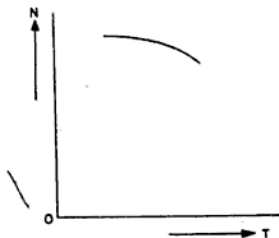

Fig. 8.10  $N/T$  characteristic
**$N/T$  Characteristic** This characteristic is shown in Fig. 8.10 and can be found from curves 1 and 2 as shown in the two curves of the dc shunt motor. The  $N/T$  characteristic falls a little due to the fact that when the load is increased, the motor tends to slow